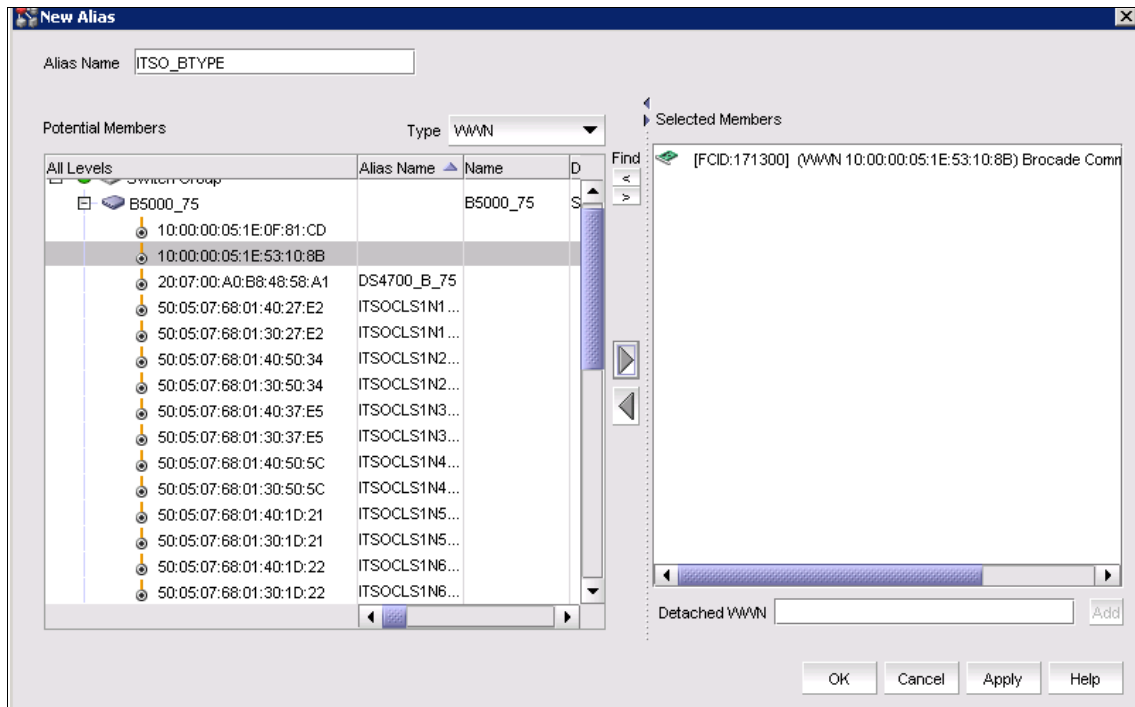

Figure 12-10 New Alias dialog box
4. The New Alias dialog box displays, as shown in Figure 12-10.